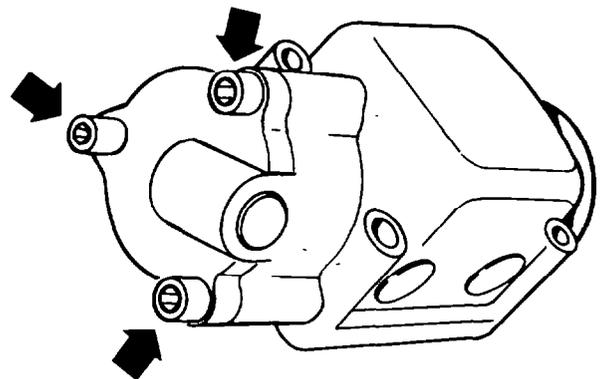

Figure 195 — Air Inlet Cover Retaining Bolts
- a. Remove the three socket-head bolts from the air inlet cover, shown in Fig. 195, and remove the cover. Discard the O-ring.